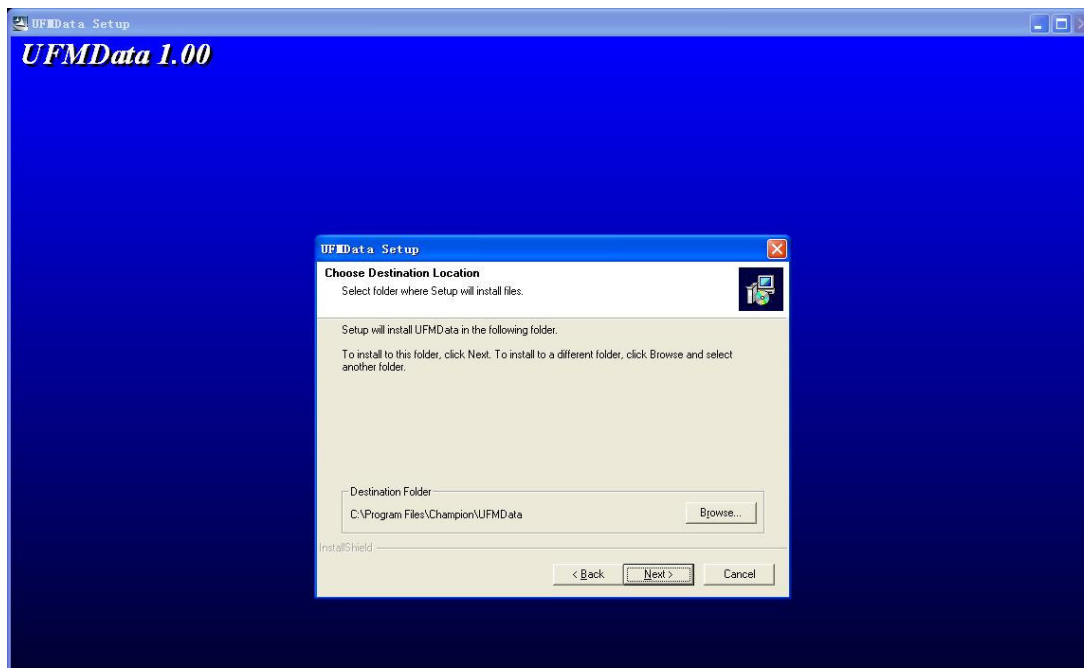

Figure 6-7 Select a UFMDData Installation Directory
Step 2: Select an installation directory. Click “Next” to accept the default directory. If you want to change the installation directory, click “Browse” to select a directly and click “next” to continue to the next step, as shown in Figure 6-7.